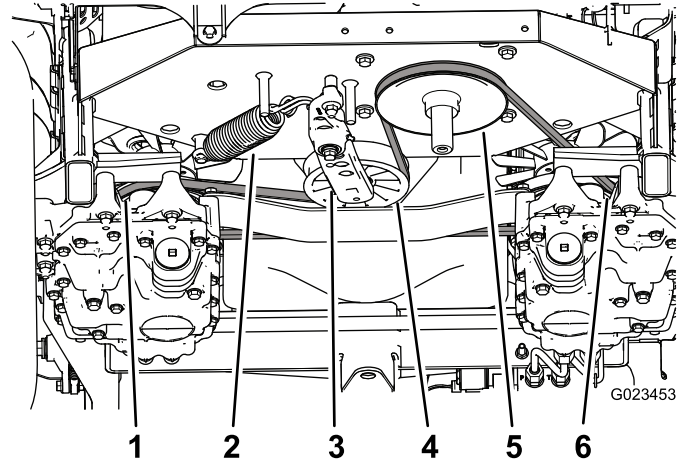

Figure 55
3. Use a ratchet in the square hole in the tensioner arm to counteract against the tensioner spring (Figure 55), and remove the belt from the tensioner pulley.
4. Unhook the tensioner spring from the tensioner arm and the frame (Figure 55).
9. Install the spring on the tensioner arm and the frame (Figure 55).